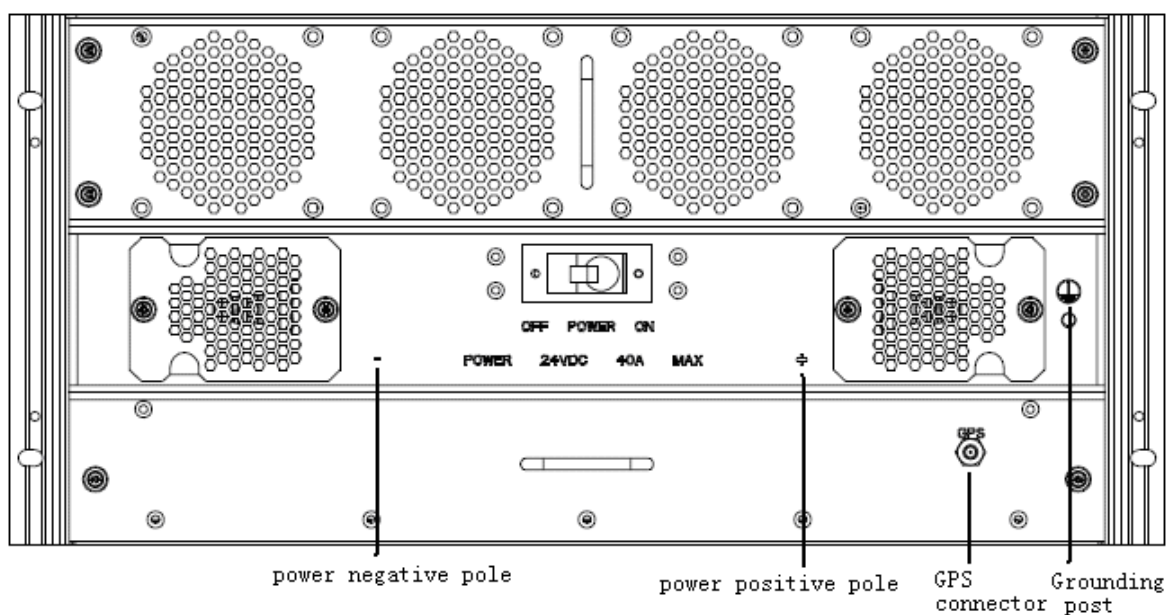

Figure 2-11 Connector for BTS power cable
(1) Use flame retardant cable as base station power cable, press it out through $\Phi 6$ copper lug, and screw down on the base station power wire posts, as shown in Figure 2-11.